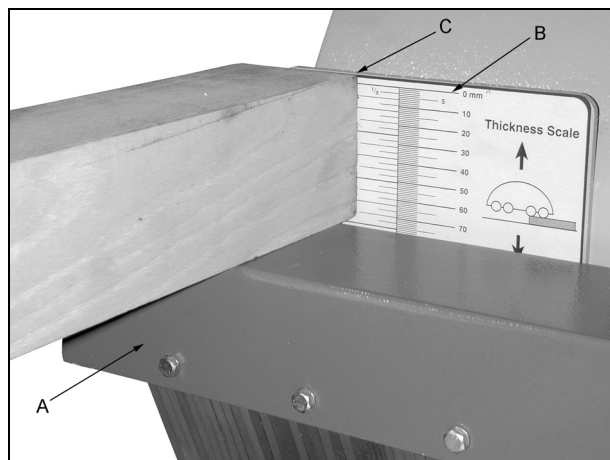

Figure 10
1. The rip saw is equipped with a quick reference guide (Figure 10) for pressure roller height adjustment. Place the material on the anti-kickback support casting (A, Figure 10). The zero mm mark (B, Figure 10) represents the pressure roller bottom surface. Raise or lower the carriage until the work piece is at the desired height above the zero mark.